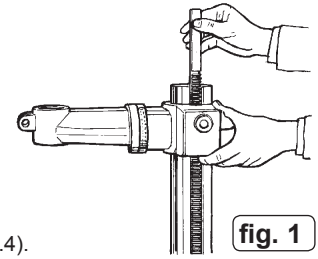

fig. 1
- 5.1.2. Install table bracket onto column together with rack (fig.1), engaging gear in bracket with rack.